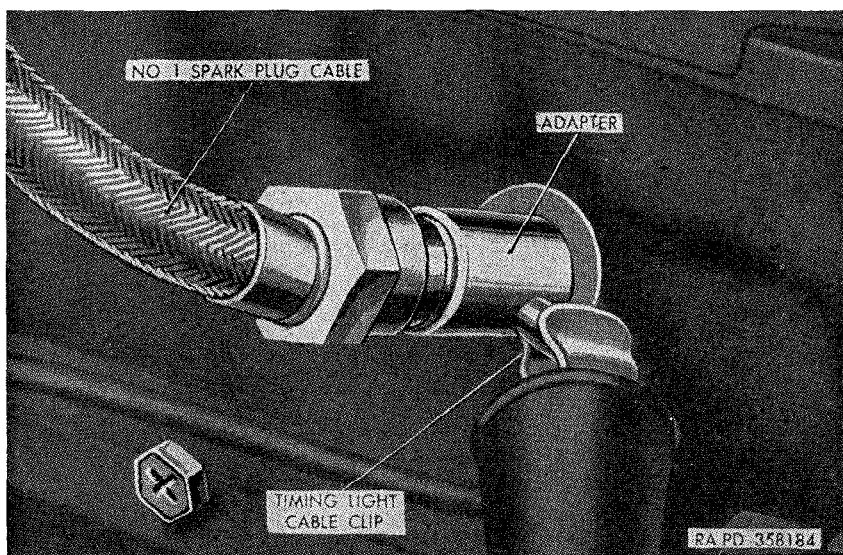

Figure 77. Timing light adapter—installed.
e. Unscrew the terminal nut securing the spark plug cable assembly to the No. 1 spark plug (fig. 40), and disconnect the cable. Push the timing light adapter (fig. 77) over the spark plug and connect the cable to the adapter. Connect one timing light terminal to the adapter and the other terminal to a convenient ground.